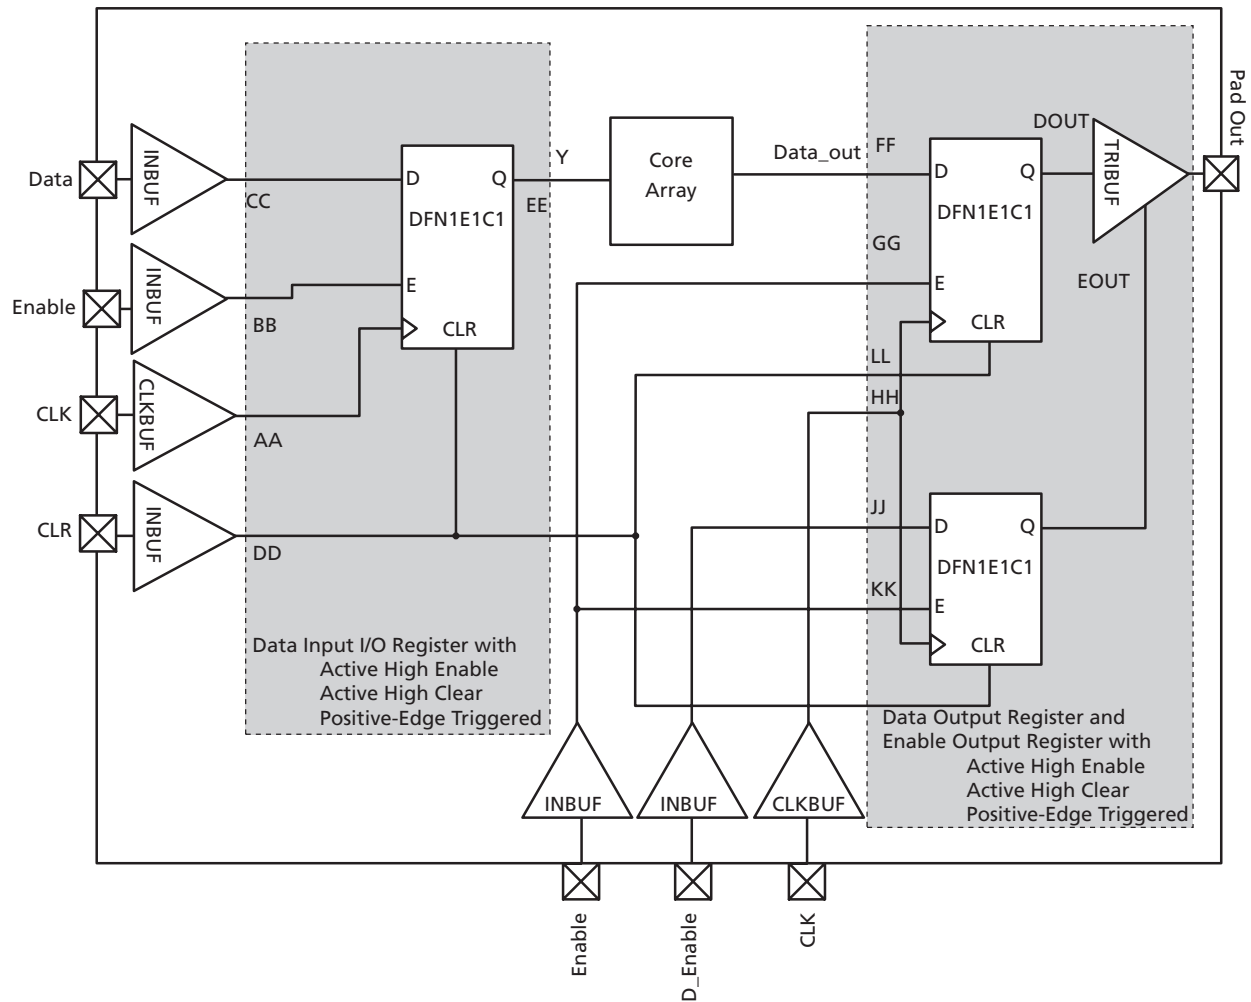

Figure 2-27 • Timing Model of the Registered I/O Buffers with Synchronous Enable and Asynchronous Clear
* See Figure 2-27 on page 2-69 for more information.